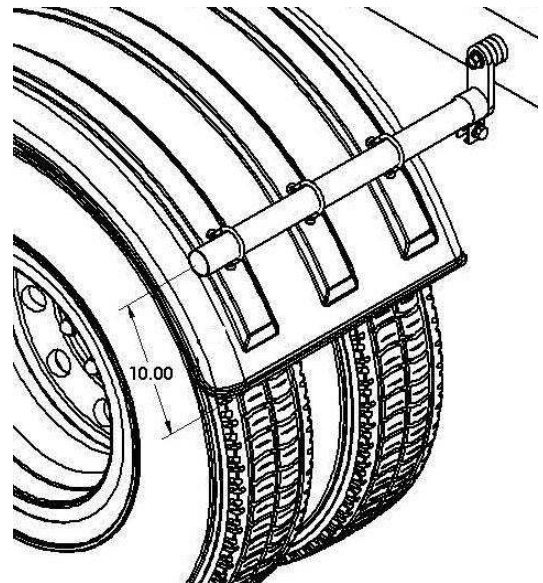

Figure 4
- D. Make sure the brackets are within 10" of the bottom of the fender to avoid wind blowing the fender back into the tire (Figure 4).